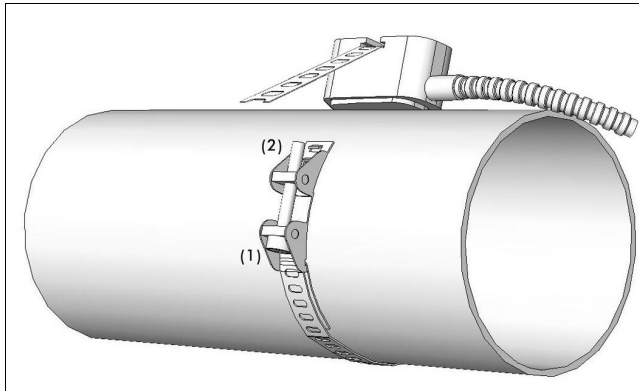

Fig. 7.5: Transducer and Oetiker clasp on the pipe
- Place the clasp on the side of the pipe just in front of you. Lay the tension strap around the pipe and place the transducer on the pipe (Fig. 7.5).
- Holding the clasp and the transducer with one hand, thread the tension strap through part (2) and (1) of the clasp. Pull the strap firmly and engage the tension strap in the inner hooks of the clasp. When mounting the transducers on pipes with large diameters, it might be necessary to use tongs to tense the strap.